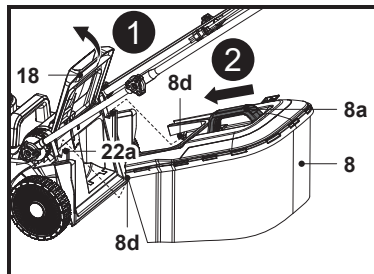

Fig. 7
4. Open the rear deflector guard (18) and hold it in position (Fig. 7, step 1).
5. Carry the grass catcher (8) by its carry handle (8a).
6. Align the two catcher hooks (8d) with the slots (22a) and hang the grass catcher (8) onto it (Fig. 7, step 2).
7. Carefully release the rear deflector guard (18) afterward.